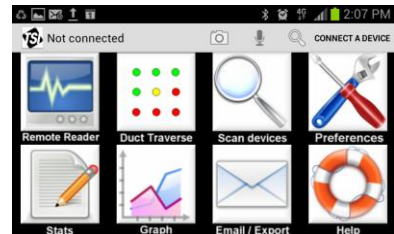

Figure 4. LogDat Mobile Main Screen
- c) Once **“Connected,”** LogDat Mobile can be utilized and will appear (Figure 4).